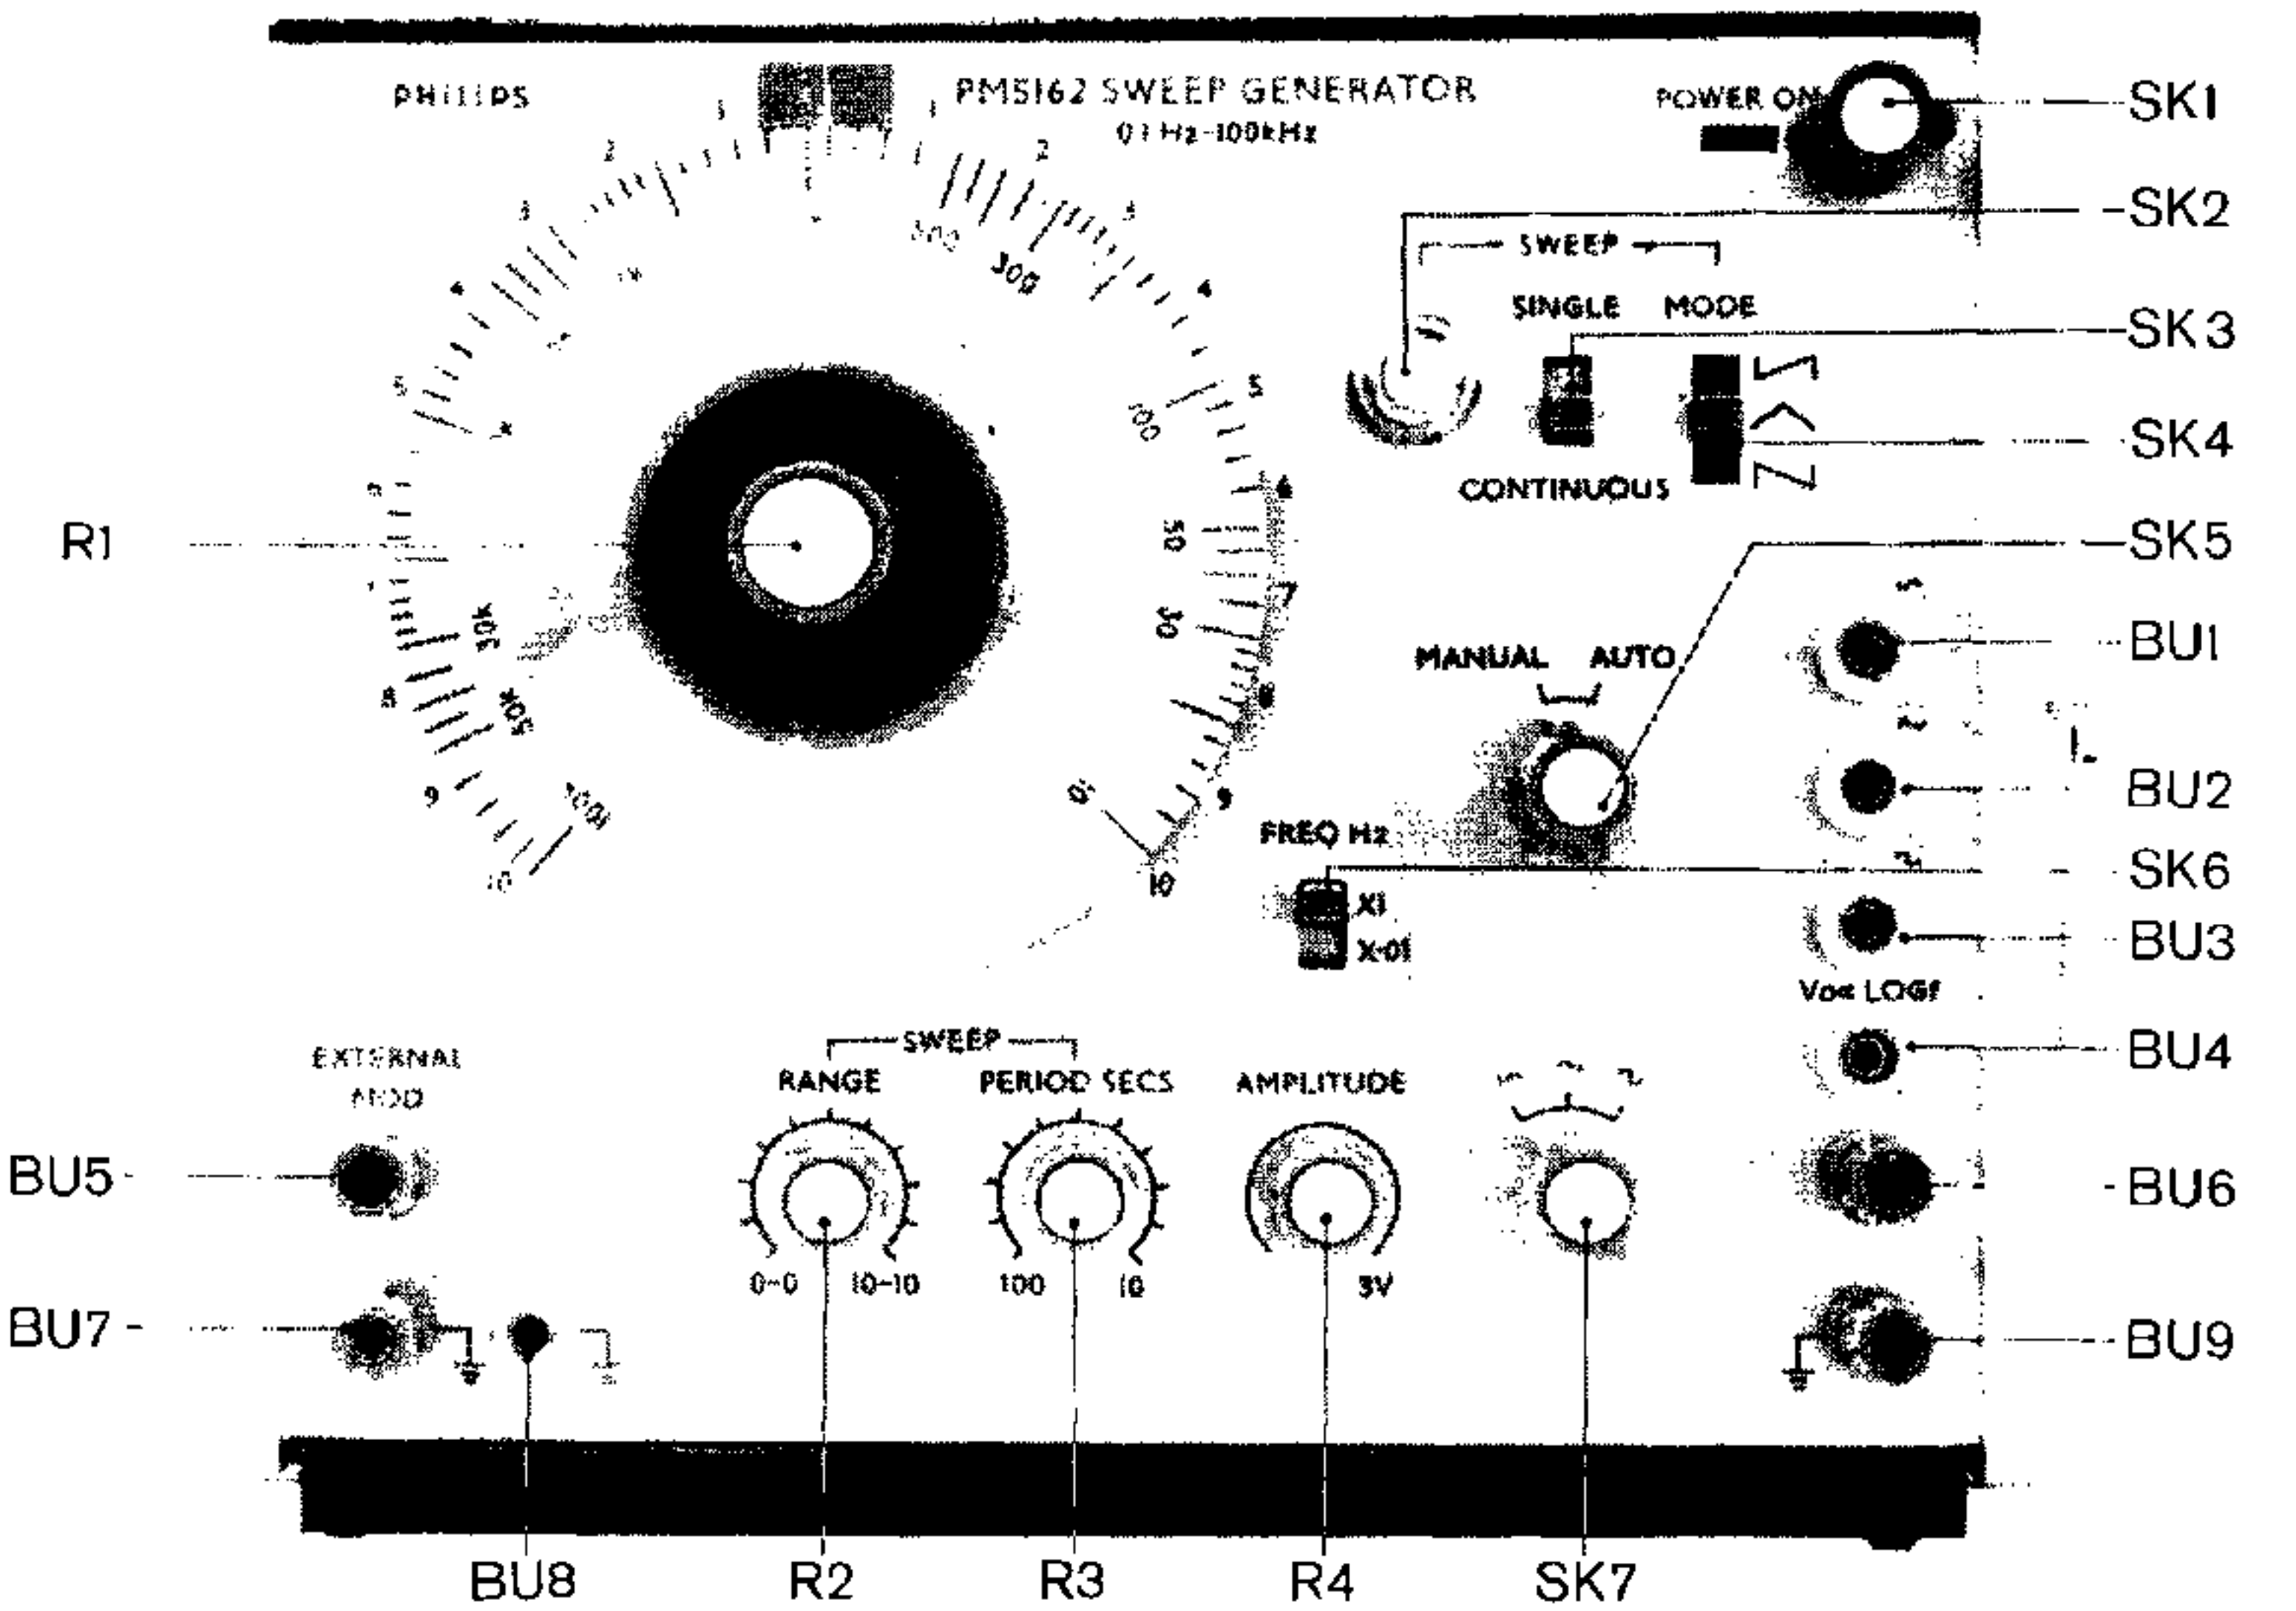

Fig. 6. Controls
B. EARTHING (see Figs. 6 and 7)